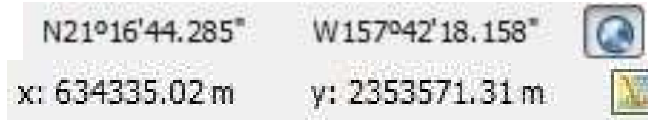

Figure 57. Status Bar Position Units
4. Click the **Reset to International Standard (IS) units** button to reset the default settings.
5. Click the **Toggle between Lon/Lat vs. Easting/Northing** icon to the far right of the status bar (Figure 57).